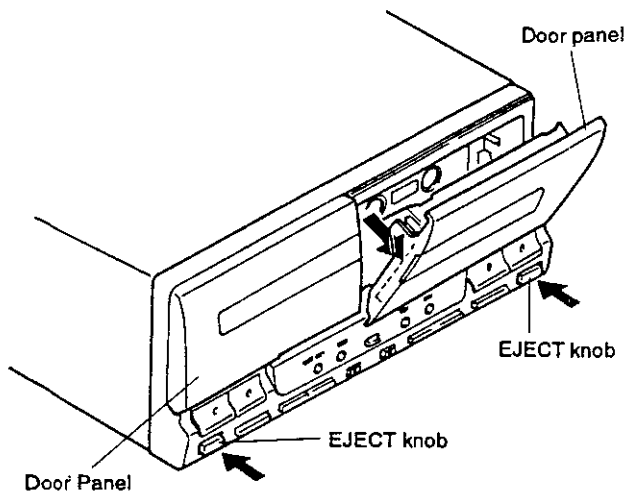

Fig. 8-4
1. Push the EJECT knob, and make the cassette door open. (See Fig. 8-4.)
2. Take the door panel off, as shown with an arrow in Fig. 8-4. Take the DECK I and DECK II doors off, one after the other.